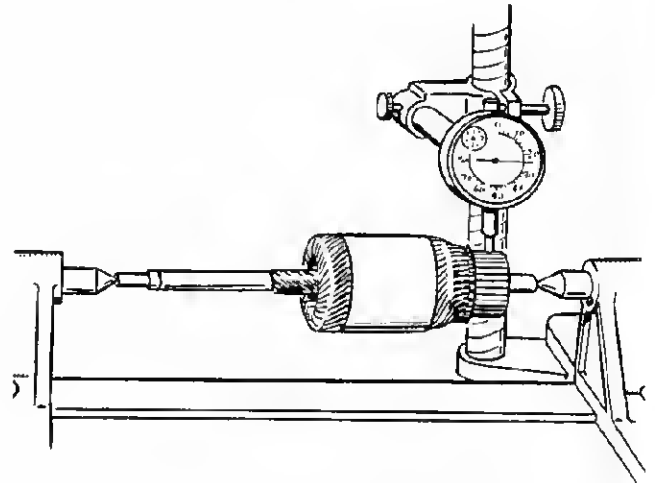

FIGURE 36. CHECKING COMMUTATOR RUNOUT
**Testing Commutator Runout:** Place the commutator on a test bench and check runout with a dial indicator (Figure 36). When commutator runout exceeds 0.004 inch, reface the commutator.